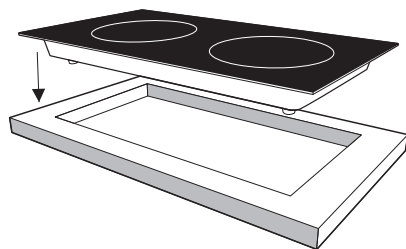

Figure 4
- Put the stove with the waterproof tape into the opening, insert the plug of the power cord into the corresponding socket, and it can be used normally when it is powered on (as shown in Figure 4).